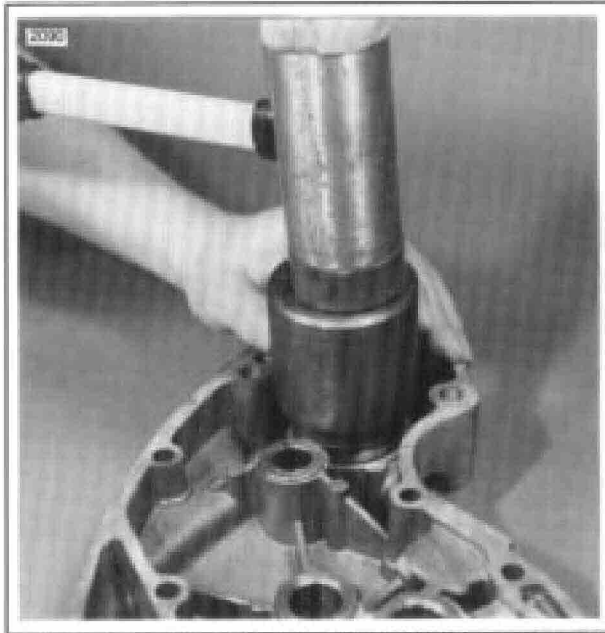

Figure 3. Late-Style Breather Valve Installation
3. See Figure 3. Install late-style breather valve from kit until the base plate shoulder seats squarely on gearcase cover casting.